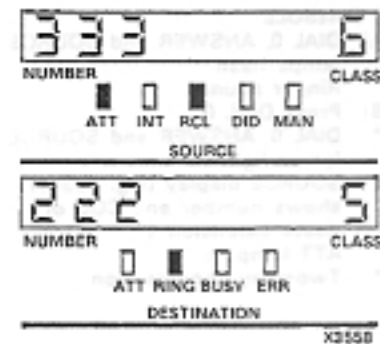

Fig. 303-3
* SOURCE display (Fig. 303-3) shows the number and COS of check extension 1